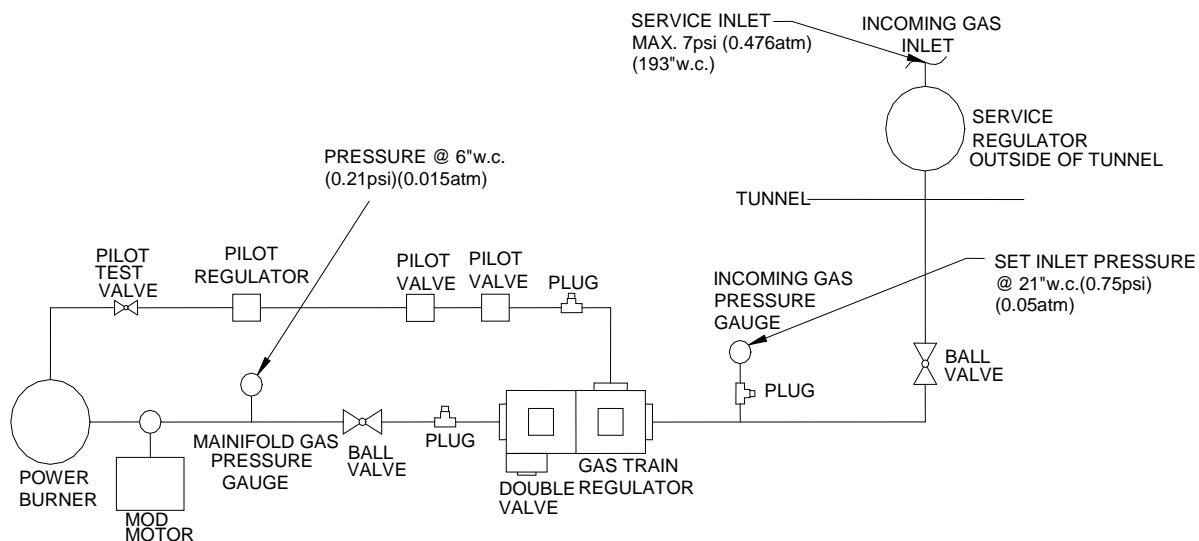

Figure 7
3. Screw regulator on with arrow on casting pointed **downward** (Figure 7).